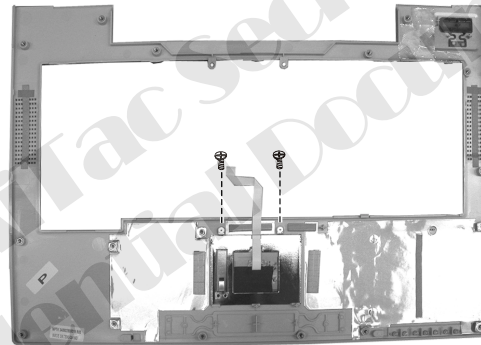

Figure 2-31 Remove the two screws
3. Remove two screws and free the touch pad. (Figure 2-31).